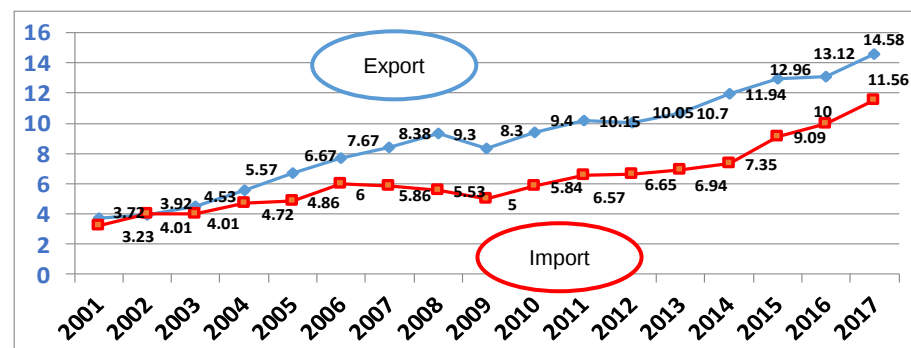

Figure 2.3: Export and Import of Plastics Products (2001-2017)
Malaysian made plastics products are well known for their consistent quality and competitive prices. Plastics products are mainly exported to the developed nations, including the European Union (EU), United States, Japan, Australia and Singapore. Based on data acquired from the Department of Statistics Malaysia, total exports of plastics products for 2017 amounted to RM14.58 billion, representing an increase of 11.2% from RM13.12 billion in 2016 as shown in Figure 2.3: Export and Import of Plastics Products (2001-2017).²⁵